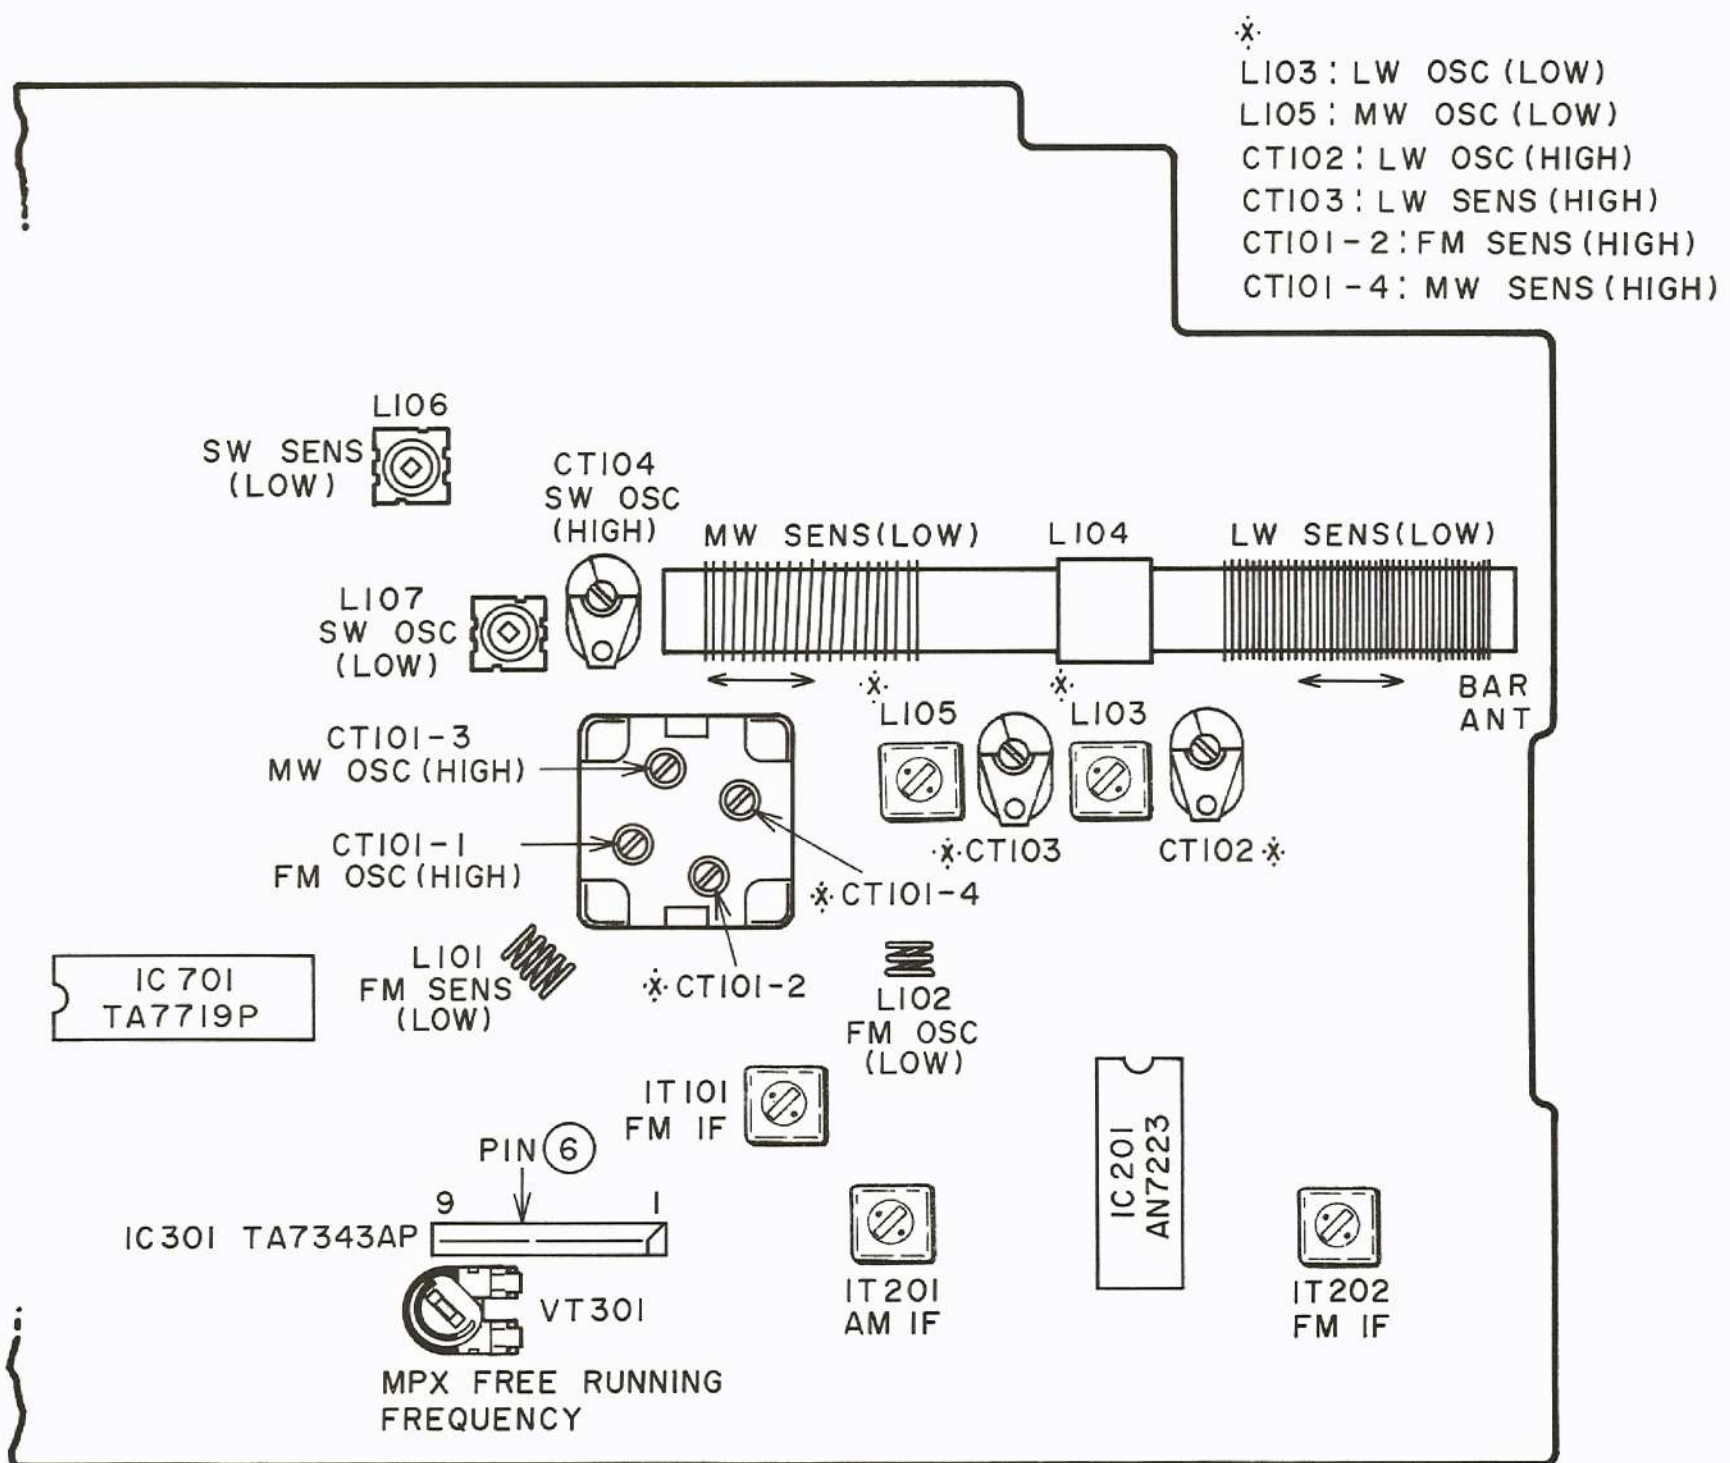

Fig. 2-5
3. Adjust the sensitivity (Low) by moving the coil in the direction shown with arrow in Fig. 2-5.